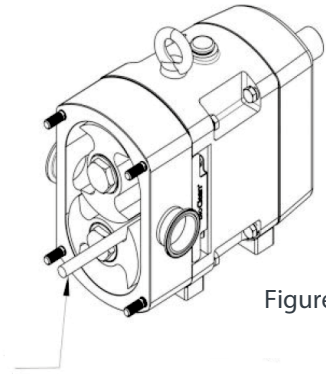

Figure 18
- c) Place the wooden dowel between the rotors as shown in Figure 18.